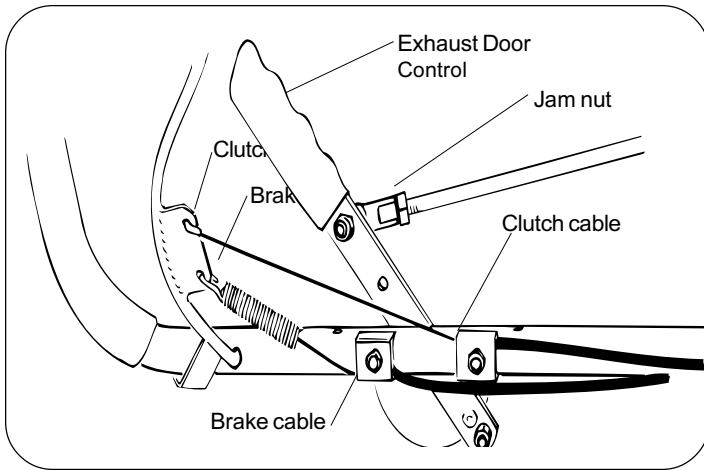

Fig. 8
4. **Self Propelled units only:** Remove nuts securing remote exhaust door control. Use nuts to attach brake and clutch cables as pictured (See fig. 8, Page 5).
5. **Self Propelled units only:** Attach ends of clutch cable and brake cable in holes provided in bail, and secure bail in pivot holes in upper handle (See fig. 8, Page 5).
6. **Self Propelled units only:** With remote exhaust door control in rearmost position and exhaust door in closed position thread remote deflector rod into ball joints pre-assembled on door control and exhaust door pivot rod. Adjust to allow necessary range of motion and lock in place using jam nuts provided on rod. (See fig. 8 & 9, Page 5)